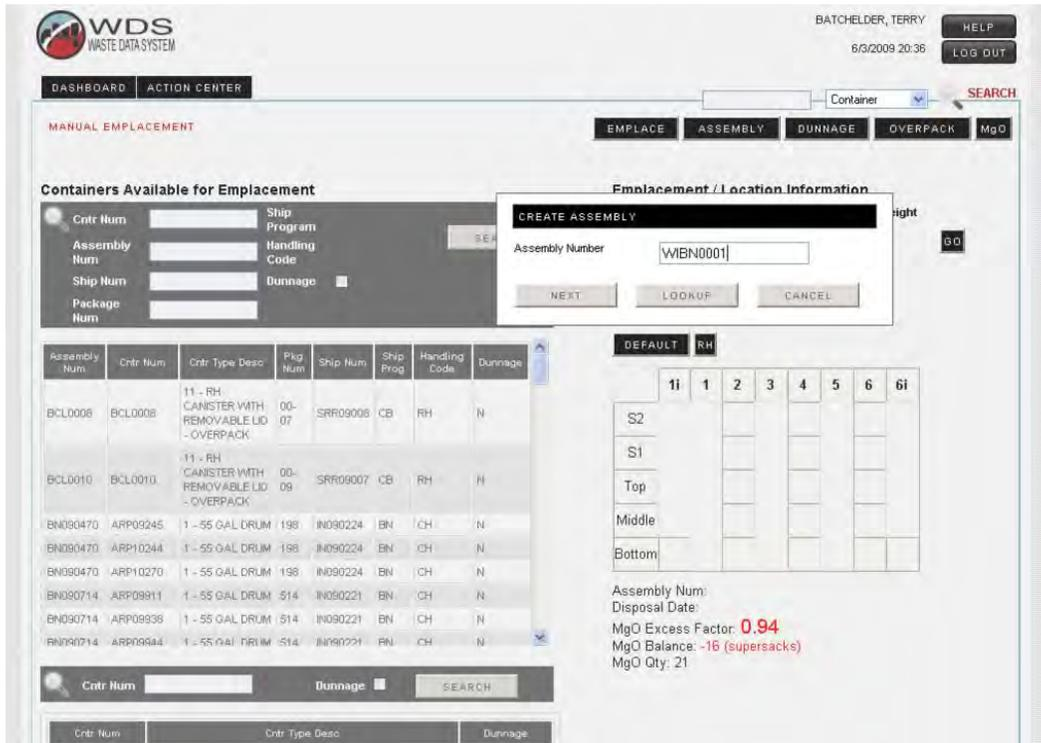

Figure 5 - 7 – Assembly Screen
- C. Highlight a Overpack Container on left side of screen and click on **Add Container** button as shown in Figure 5 - 7.